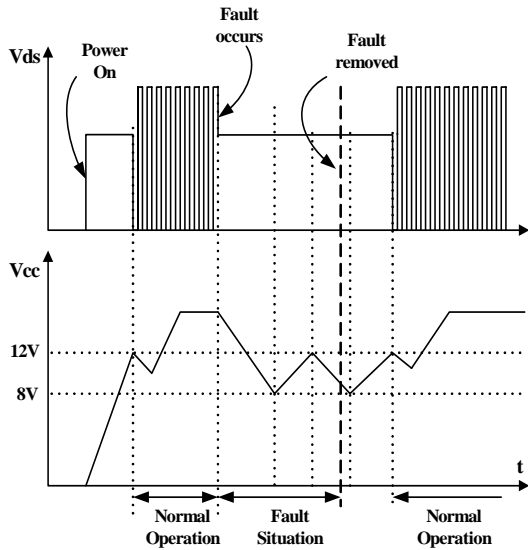

Figure 19. Auto Restart Operation
3. Protection Circuit: The FSCM0565R has several self protective functions such as over load protection (OLP), over voltage protection (OVP) and thermal shutdown (TSD). Because these protection circuits are fully integrated into the IC without external components, the reliability can be improved without increasing cost. Once the fault condition occurs, switching is terminated and the SenseFET remains off. This causes Vcc to fall. When Vcc reaches the UVLO stop voltage of 8V, the current consumed by the FSCM0565R decreases to the startup current (typically 25uA) and the current supplied from the DC link charges the external capacitor (Ca) that is connected to the Vcc pin. When Vcc reaches the start voltage of 12V, the FSCM0565R resumes its normal operation. In this manner, the auto-restart can alternately enable and disable the switching of the power SenseFET until the fault condition is eliminated (see Figure 19).